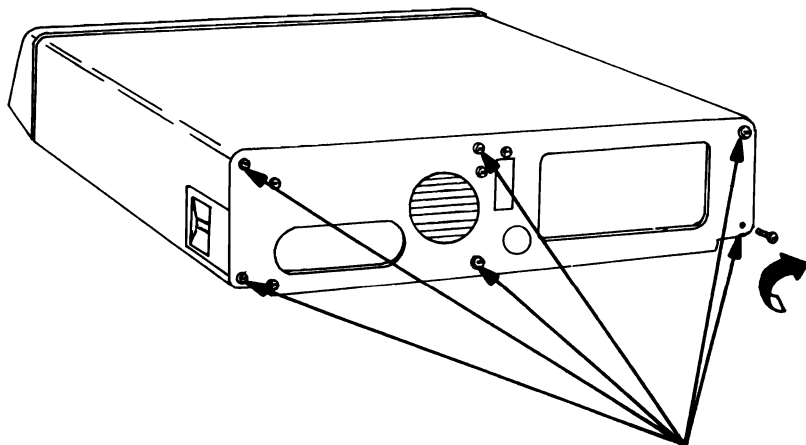

Figure 4A
2. When the cover is in place, insert the six screws into the holes in the rear of the computer and tighten using a flat-blade screwdriver. (See Figure 4A.)